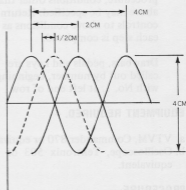
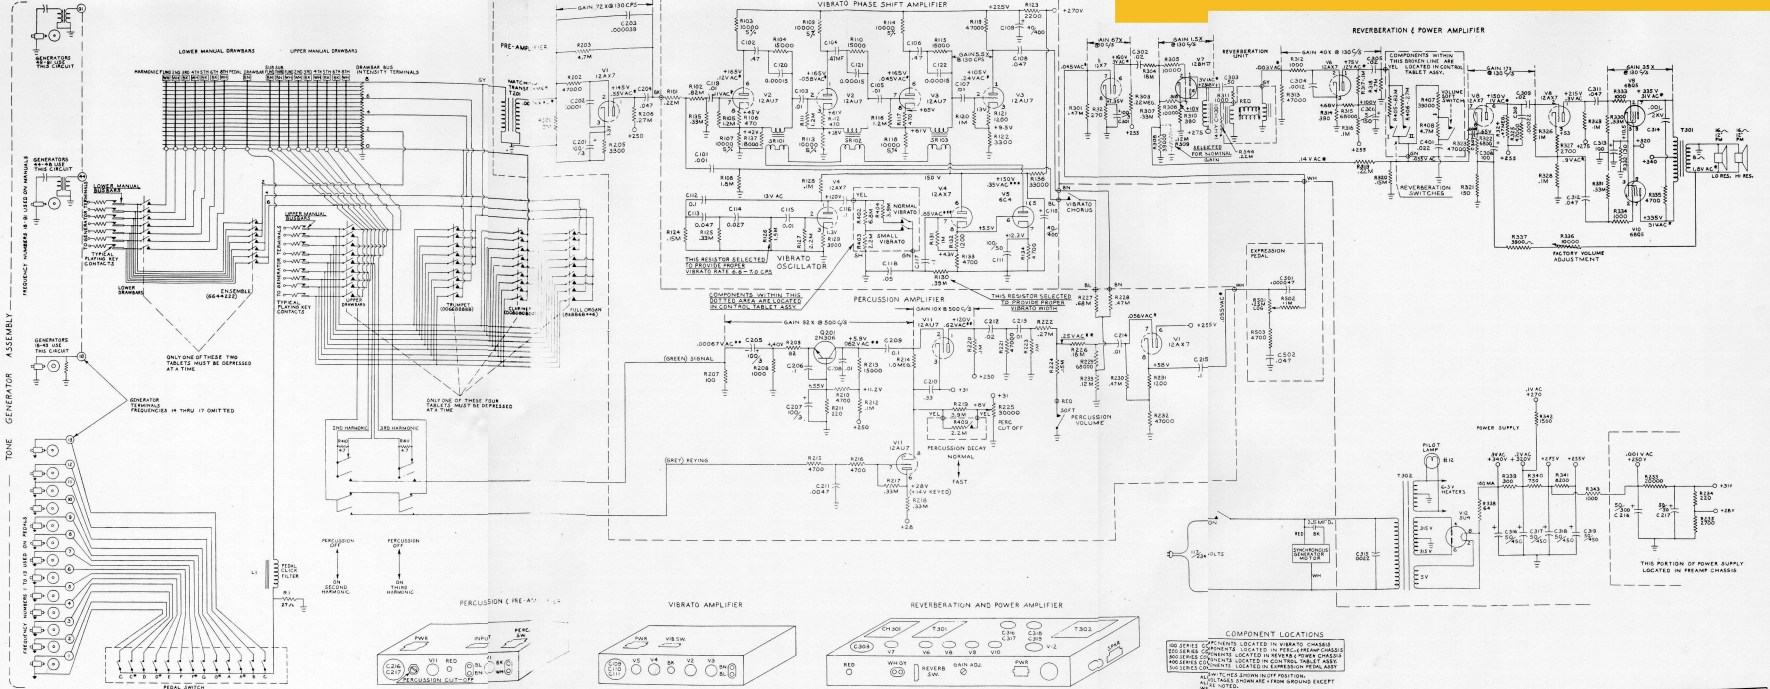

Figure 4-1. Vibrato Adjustment Waveform
FIGURE 5-1. SCHEMATIC DIAGRAM, L-100 ORGAN WITH AO-41 AMPLIFIER
- i. Depress the VIBRATO NORMAL tab. Adjust the VIBRATO WIDTH control for a total phase shift swing of 2 cm. (refer to Figure 4-1). If VIBRATO WIDTH control does not give satisfactory result, select R133, Figure 5-1 through 5-4 between 220 Ω and 1K.
- j. Release VIBRATO NORMAL tab. Single wave must be centered $\pm 1/2$ cm. as shown in Figure 4-1.
- b. If the generator turns and the tubes light, but no sound can be obtained with all controls in playing position, the most likely source of trouble is the amplifier. In most respects this is a conventional amplifier circuit, and the schematic diagrams, Figures 5-1 through 5-4, will enable the service man to locate the trouble.